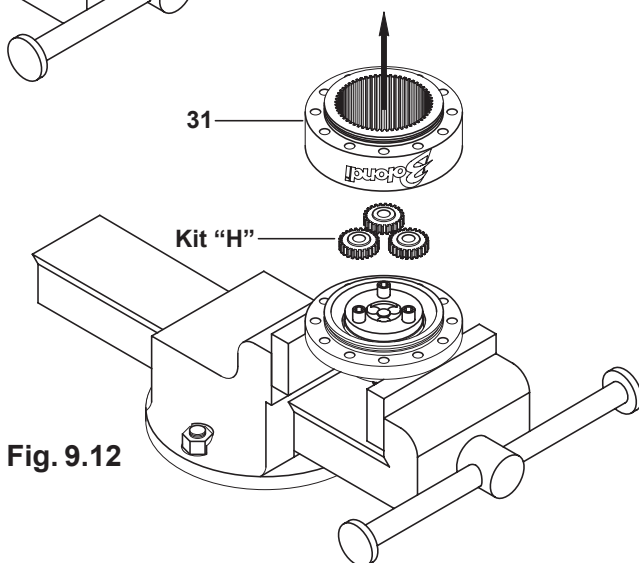

Fig. 9.12
9.3.2) Remove the crown pos.31 and the gears (kit "H") (Fig.9.12).